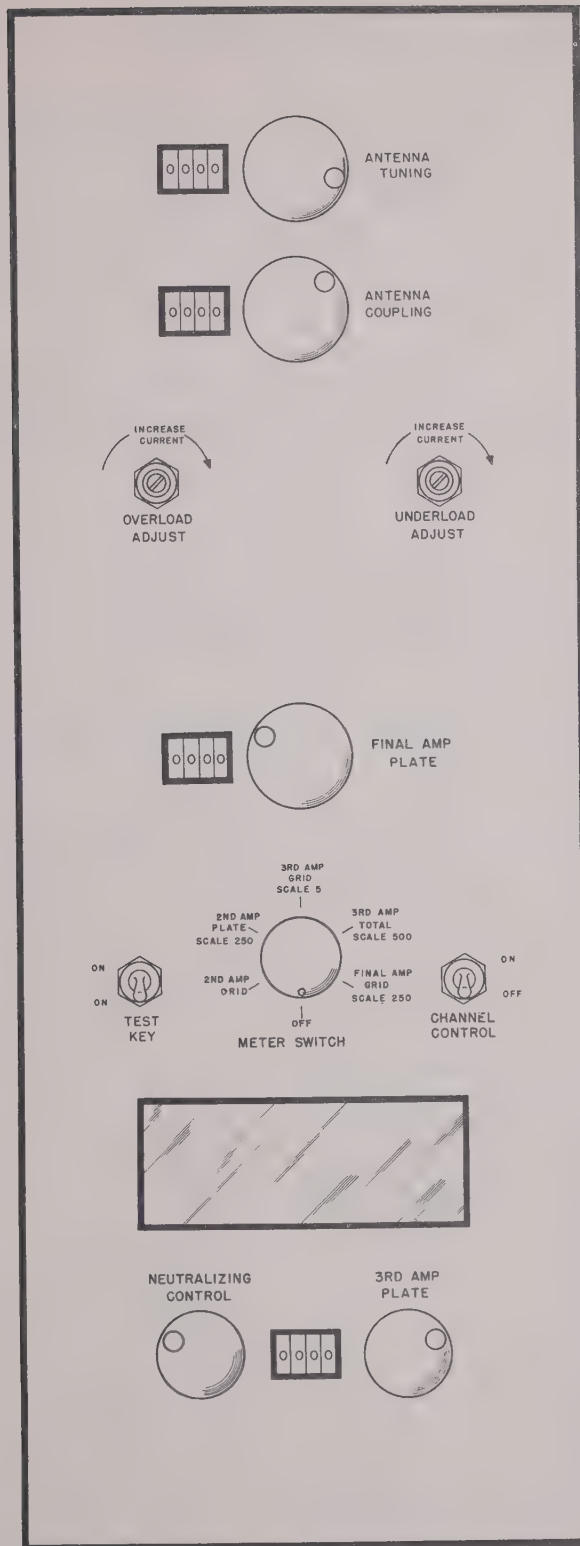

Figure 25. Radio Transmitter Model 96D,
19. Transmitter Controls and Instruments and their Use (figs. 25 and 27)